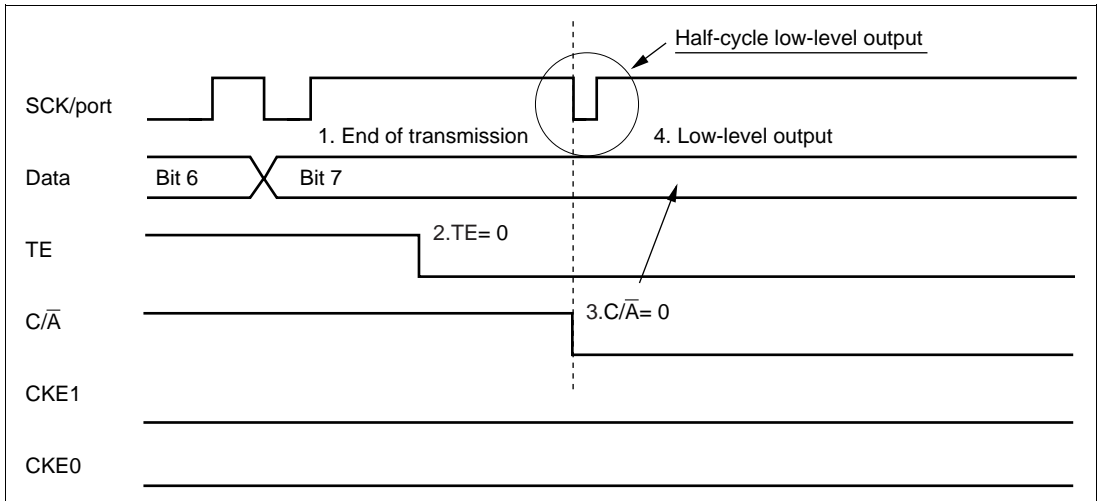

Figure 13.27 Operation when Switching from SCK Pin Function to Port Pin Function
4. Occurrence of low-level output (see figure 13.27)